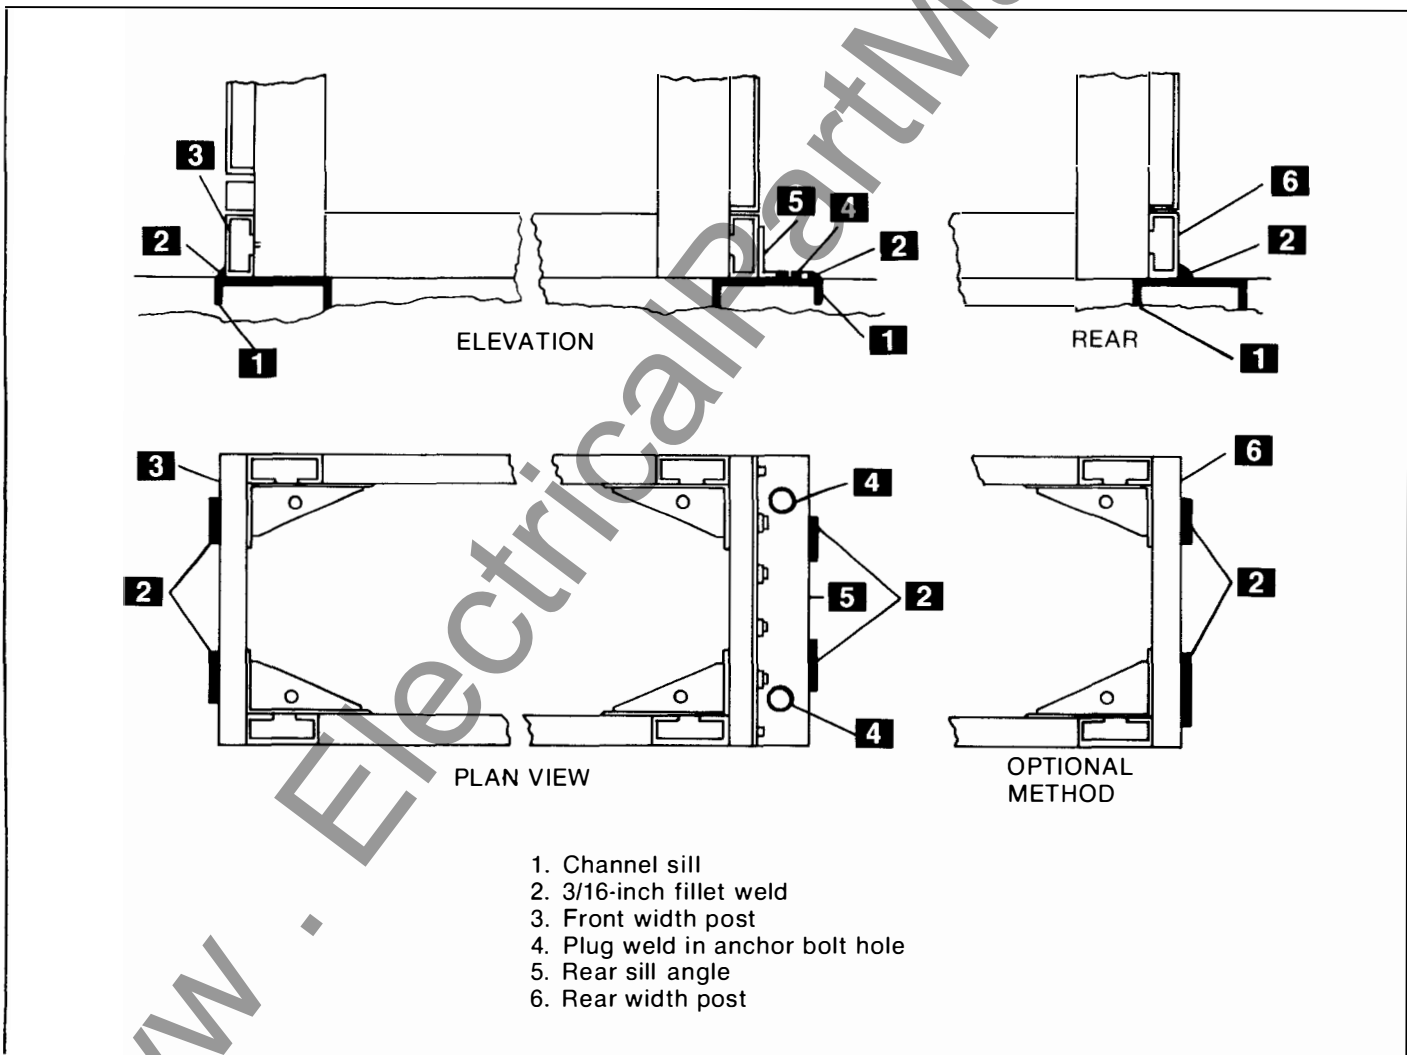

Fig. 4-22. Indoor equipment weld anchoring
2. ANCHORING BY WELD—An alternate method of anchoring the equipment to its foundation is to weld the equipment to floor sills (or the floor itself if constructed of steel). Several methods, shown on Fig. 4-22, are available to the purchaser for welding the equipment to the channel sills.
- a. *The front of the equipment is attached to the embedded channel sills (1), Fig. 4-22, by two  $\frac{3}{16}$ -inch fillet welds (2). It is recommended that two welds, each 2½ inches long (min.), be used for each section to firmly tie the bottom width post (3) to the channel sill.*
- *The first method is by plug welds (4), Fig. 4-22, using the anchor bolt holes in the rear sill angle (5). The plug weld should receive a minimum ¼-inch bead around the entire circumference of the anchor bolt hole.*
- *A second method of securing the rear sill angle (5) to the channel sill (1) is the use of two linear fillet welds (2) for each section. It is recommended that each weld be 2½ inches long (min.) with a  $\frac{3}{16}$ -inch fillet (min.).*